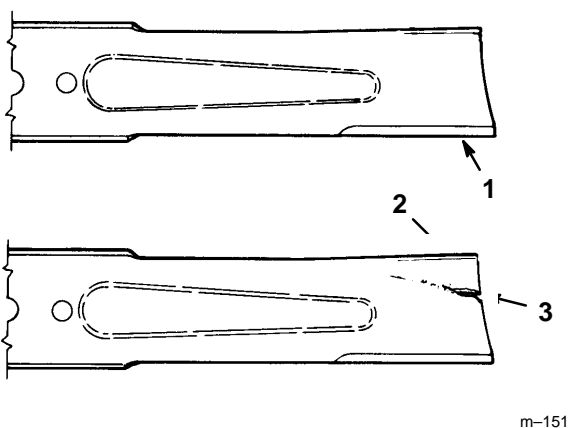

Figure 10
1. Inspect the cutting edges (Fig 10). If the edges are not sharp or have nicks, remove and sharpen the blades. Refer to Sharpening the Blades on page 12.
2. Inspect the blades, especially the curved area (Fig. 10). If you notice any damage, wear, or a slot forming in this area (item 3 in Fig. 10), immediately install a new blade.